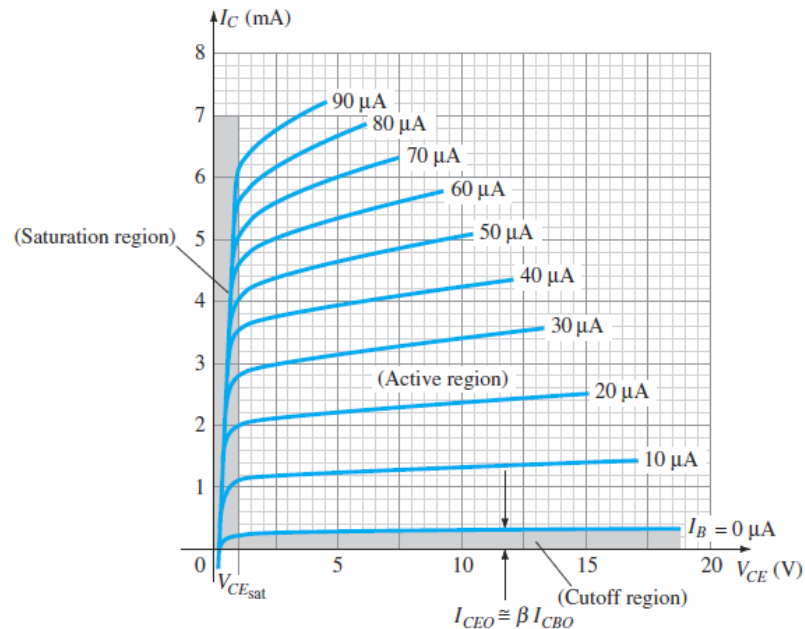

Fig 15 Output characteristics for CE mode
- **Output characteristics:** Relates to o/p current I_C to an o/p voltage V_{CE} for various levels of input current I_B as seen in Fig 15. The three region of interest are :-